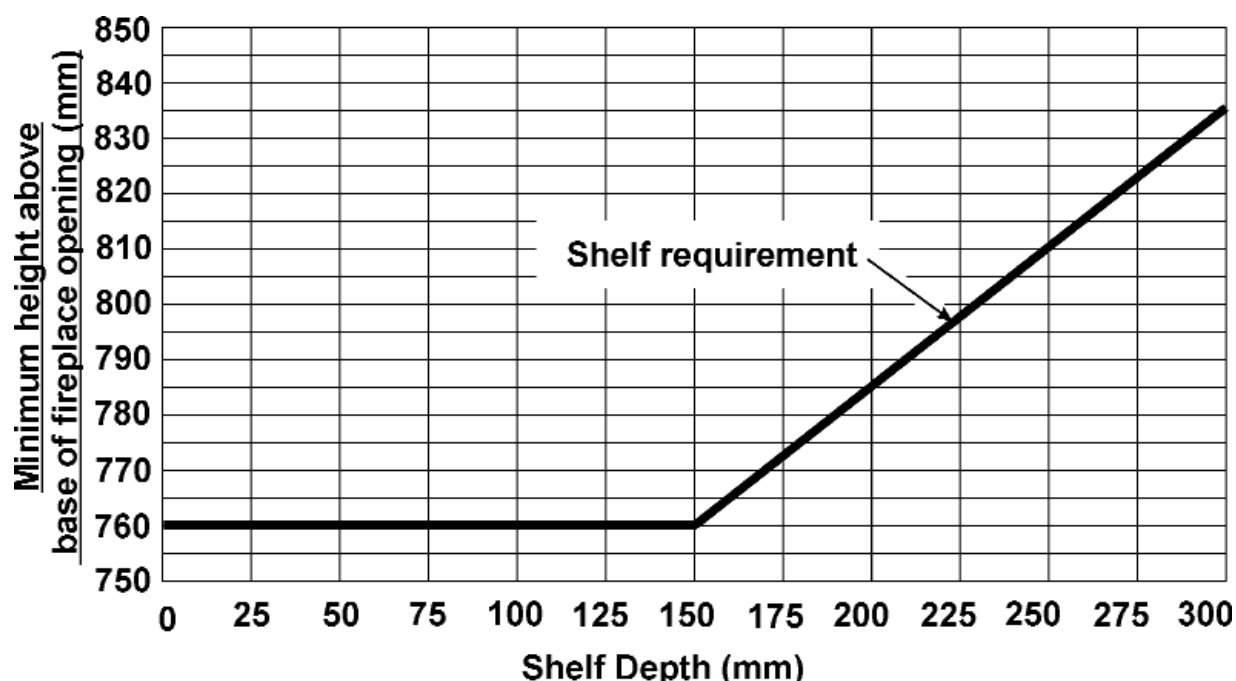

Figure 1. Combustible shelf clearances.
**Do** provide a minimum clearance as shown in figure 1 above the hearth to any shelf made of wood or other combustible material.
• *For a shelf deeper than 150mm: 760mm + 12.5mm for every 25mm depth over 150mm (See Figure 1).*